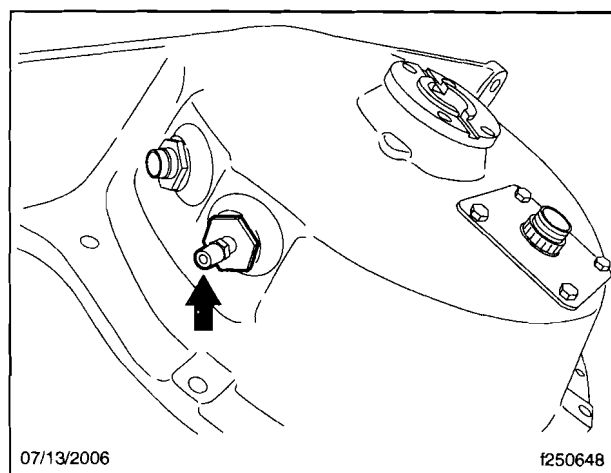

Fig. 16, Release Bearing Bleeder Valve
14. Move the bleeder hose to the release bearing bleeder valve. Perform the bleeding procedure at least 3 times, or until the fluid flows out without bubbles. See Fig. 16. Leave the return bleeder hose attached to the release bearing bleeder valve.
18. Move to the release bearing bleeder valve, then perform the same bleeding procedure at least 3 times, or until the fluid flows without bubbles. See **Fig. 16**.